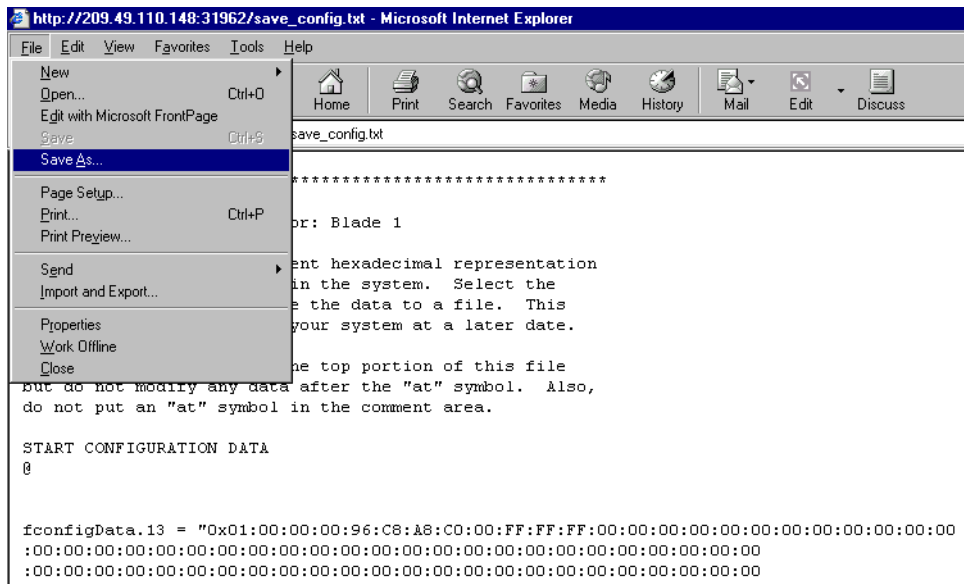

Figure 51. Saving the access server flash memory configuration data as a text file
– To save the displayed data as a text file, use your browser's **Save** function (figure 51). Using Netscape or Internet Explorer, for example.